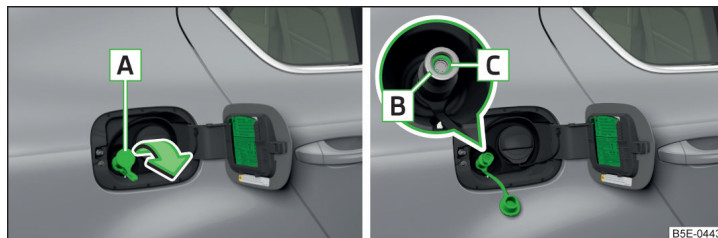

Fig. 305 Natural gas filler tubes
- Remove cap **A** » Fig. 305 in the direction of the arrow and insert connector for the refuelling system into filler neck **B**.
- › Check that sealing ring **C** » Fig. 305 has remained inserted in filler neck **B**. If the sealing ring has slipped on the connector, reinsert it into the filler neck.